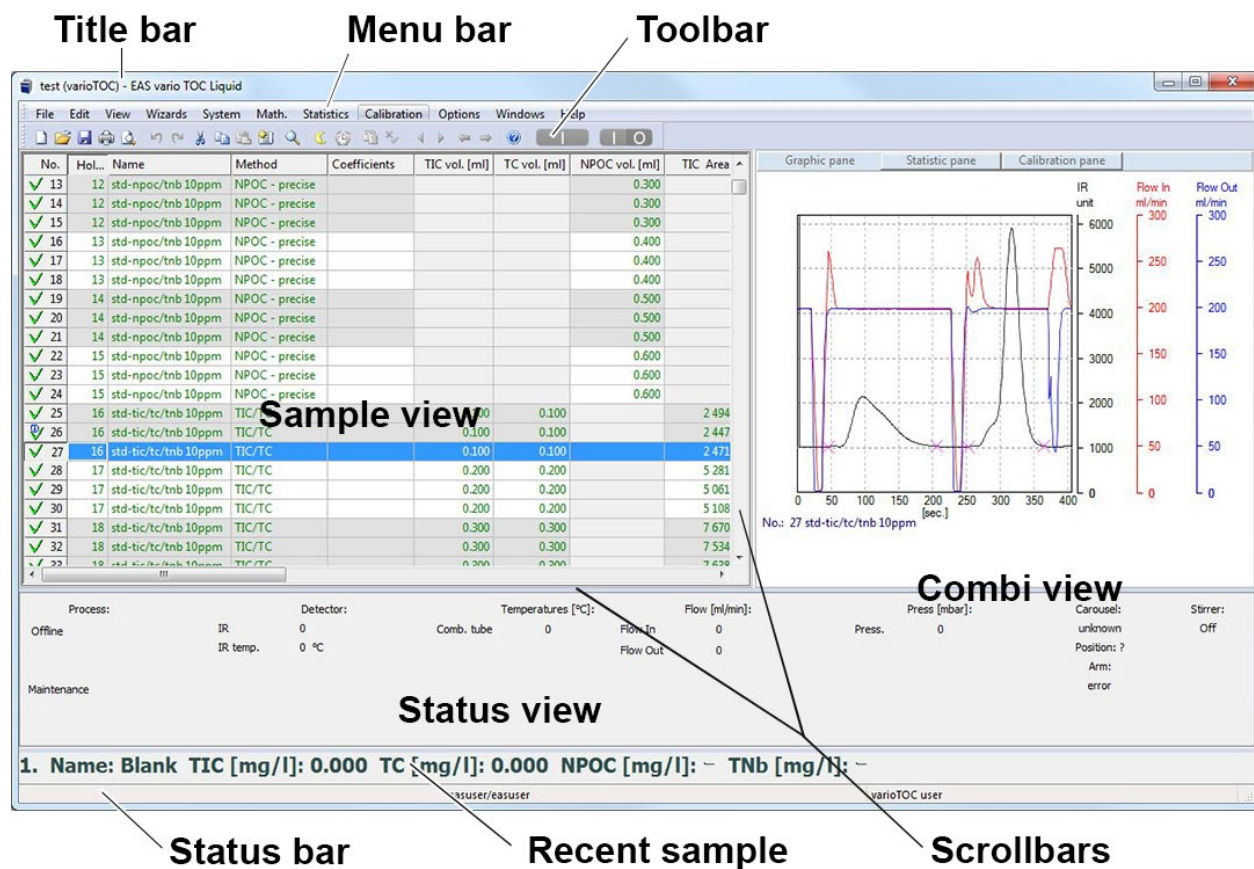

Figure 3: The window layout for the VarioTOC software. Image by: Elementar Analysensysteme GmbH.
- 3.1.3 Verify that the TOC Vario is in liquid mode, which is specified in the title bar. See Figure 3 below for the VarioTOC window layout. If the analyzer is in solids mode, then see Section 3.8, below, for procedures on switching the analyzer to liquids mode.